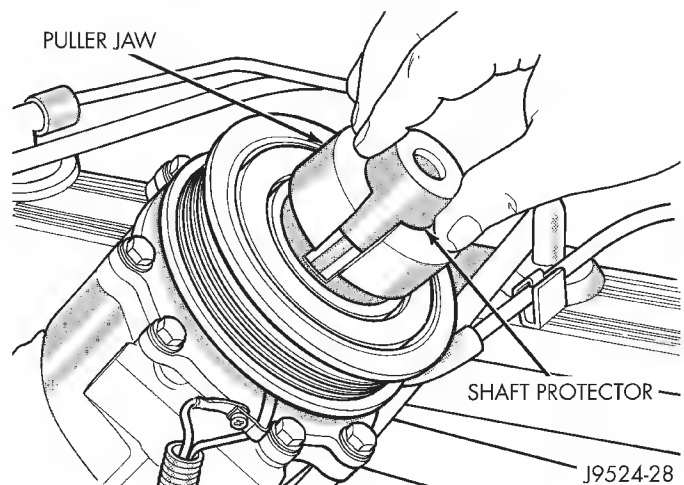

Fig. 7 Shaft Protector and Puller
- (7) Install lip of rotor puller 6141-1 into the snap ring groove exposed in the previous step and install shaft protector 6141-2 (Fig. 7).